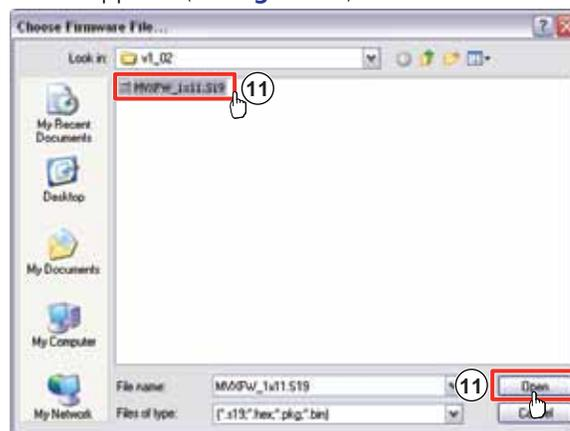

Figure 33. Choose Firmware File Window
10. Select the MVX matrix switcher and click **File > Open**. The Choose Firmware File screen appears (see **figure 33**).